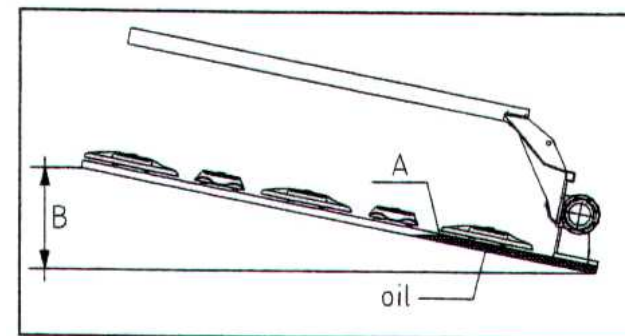

Fig. 47
2) Lift the bar using the hydraulic hitch as indicated in Fig. 47.
Mod. D4L: B = 40 cm (Fig. 47).
Mod. D5L: B = 125 cm (Fig. 47).
Mod. D6L: B = 30 cm (Fig. 47).
Mod. D7L: B = 35 cm (Fig. 47).
Mod. D8L: B = 50 cm (Fig. 47).